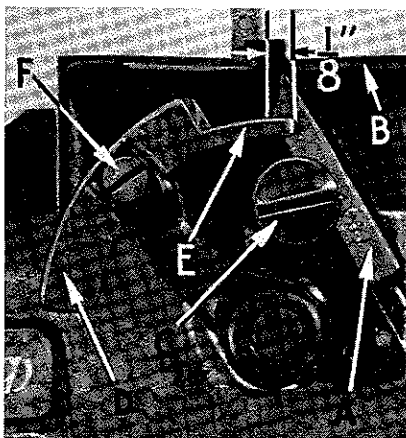

Fig. 7
The stationary knife (A, Fig. 7) should be set so that its top edge is even with the lower side of the throat plate (B).
The movable knife (D, Fig. 7) should be set so that in its entire arc of travel, it just clears the throat plate and so that in its open position its pilot (E) overlaps the stationary knife by 1/8 inch.